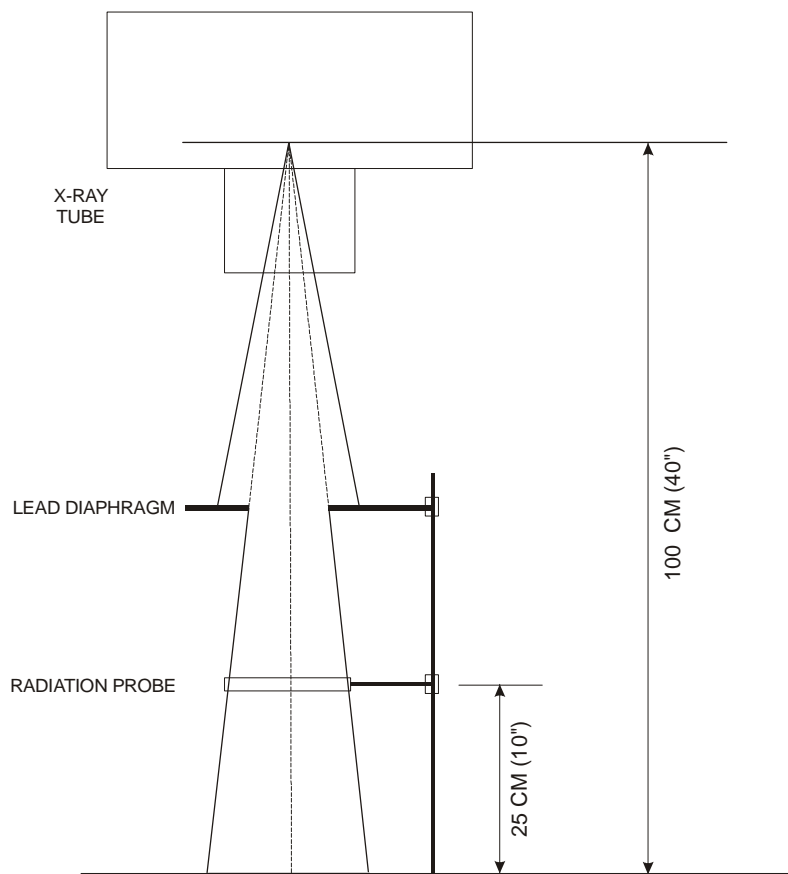

Figure 1: Dose measurement setup
2. Place a lead diaphragm over the detector and adjust its height so that the X-ray beam covers the detector but does not over radiate the sides of the probe. Refer to figure 1.